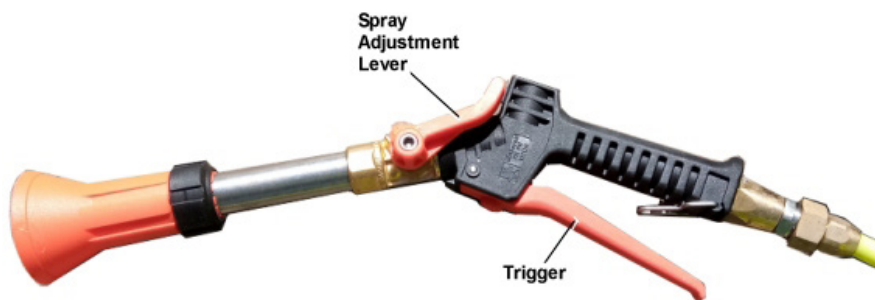

Figure 10 – Spray Gun (typical)
- Aim the hose's spray gun in the required direction and squeeze the trigger. Adjust the spray pattern by operating the lever on the spray gun handle, refer to Figure 10.